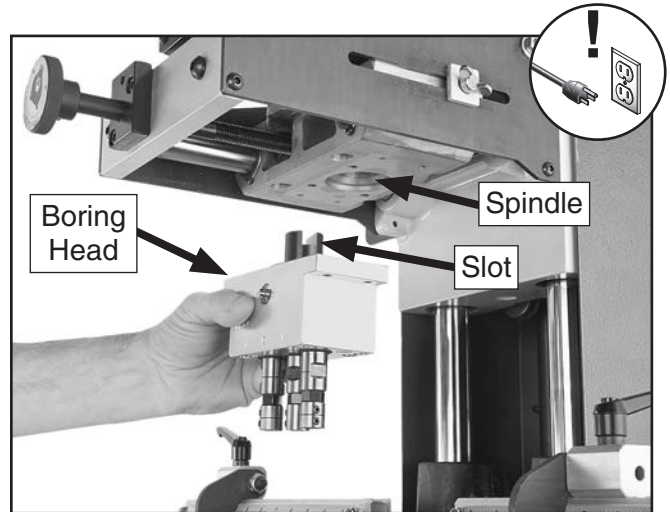

Figure 15. Installing boring head on spindle.
- Mount the boring head to the spindle, making sure the slot in the boring head shaft (see **Figure 15**) is aligned with the tang in the spindle.